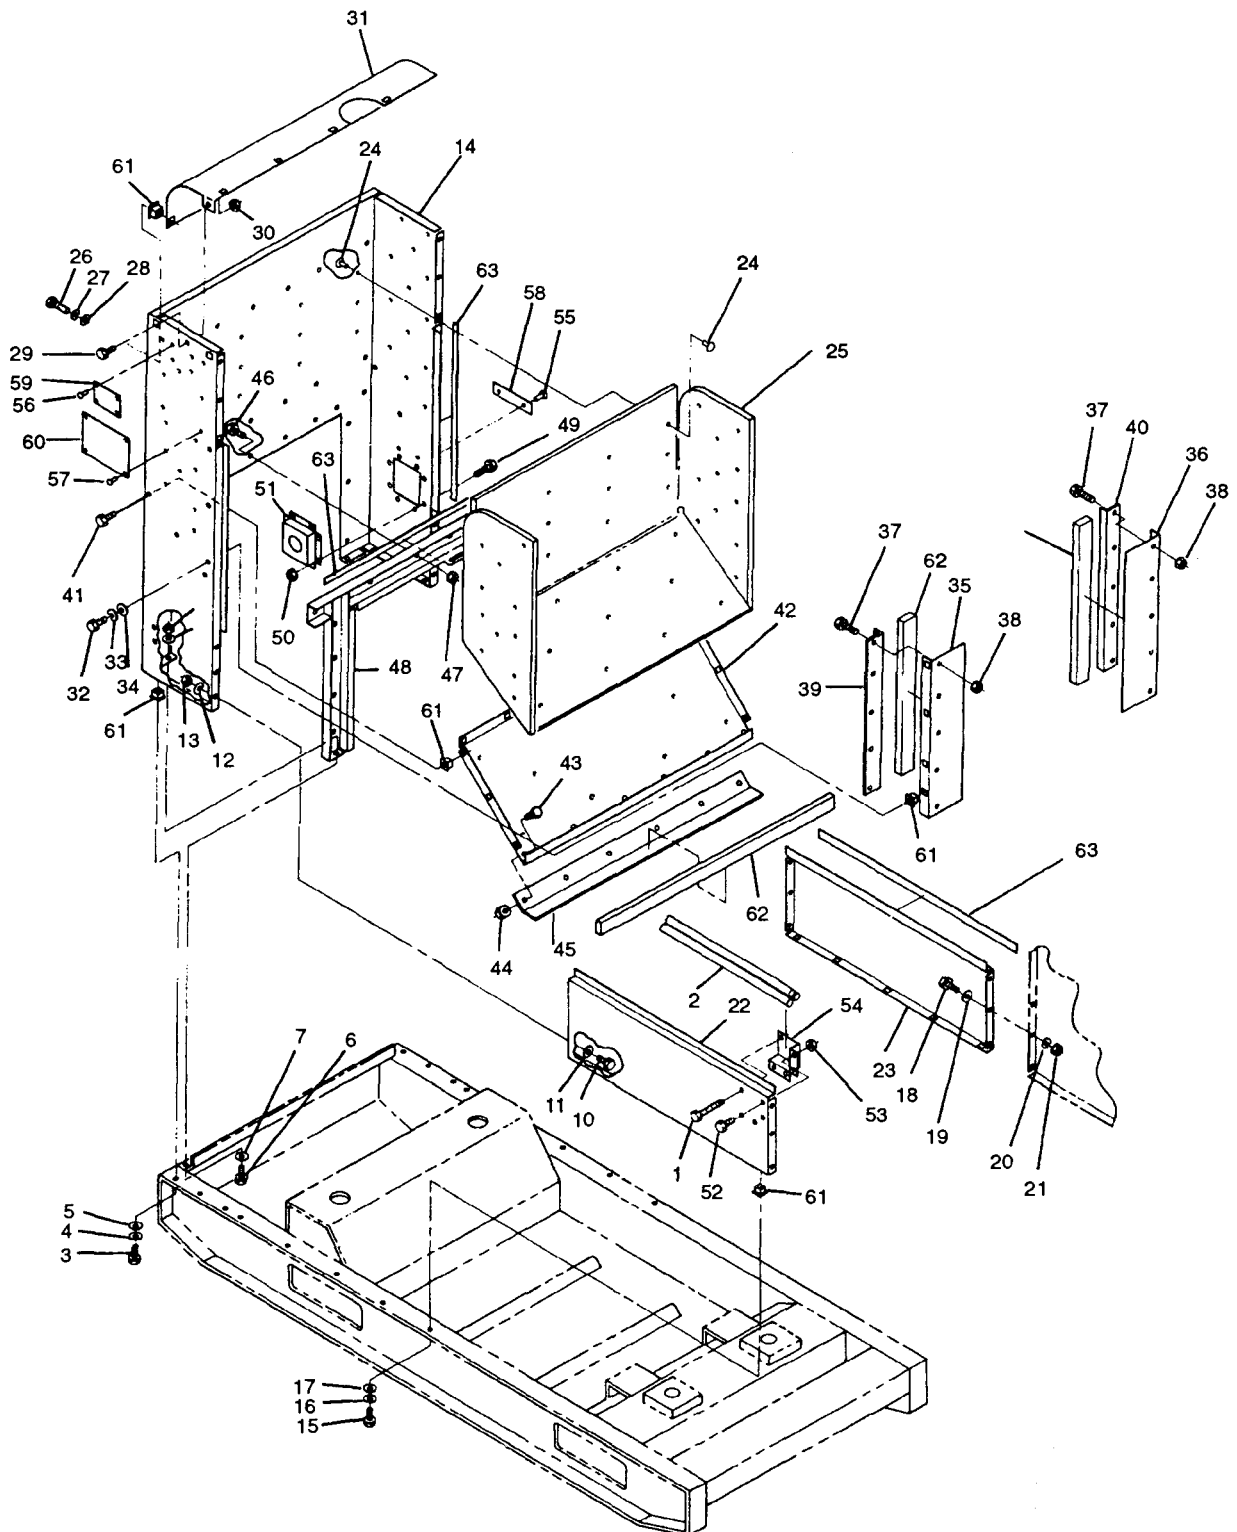

FIGURE 2-8. Generator Set Front Housing Section
- f. Remove bolts (1, FIGURE 2-8) and ground rods (2) from brackets (54).
- g. Remove bolts (3), (6), and (10); flatwashers (5), (7), and (11); lockwashers (4), (8), and (12); nuts (9) and (13); and front panel (14) from generator set.
- h. Remove bolts (15) and (18), flatwashers (17) and (19), lockwashers (16) and (20), nuts (21), and side panels (22) and (23) from generator set.
- i. Remove clip halves (24) and insulation (25) from front panel (14).
- j. Remove bolts (26) and (29), washers (28), lockwashers (27), assembled nuts (30), and air deflector (31) from front panel (14).
- k. Remove bolts (32), lockwashers (33), washers (34), and panels (35) and (36) from front panel (14).
- l. Remove bolts (37), assembled nuts (38), and supports (39) and (40) from panels (35) and (36).
- m. Remove bolts (41) and panel (42) from front panel (14).
- n. Remove bolts (43), assembled nuts (44), and support (45) from panel (42).
- o. Remove bolts (46), assembled nuts (47), and support channel (48) from front panel (14).
- p. Remove bolts (49), assembled nuts (50), and slave receptacle box (51) from front panel (14).
- c. Inspect all cage nuts (61, FIGURE 2-8) for cracking or stripped threads.
- e. Inspect seals (62) and (63) for tears, looseness, and deterioration.
- c. Repaint surfaces in accordance with TM 43-0139. (F) Refer to applicable directives.
- d. Replace any cracked or stripped cage nuts (61, FIGURE 2-8).
- f. Replace loose or damaged seals (62) and (63).
- a. If removed, install identification plates (58, 59, and 60, FIGURE 2-8) on front panel (14) with pop rivets (55), (56), and (57).
- b. Install brackets (54) on panels (14) and (22) with bolts (52) and assembled nuts (53).
- c. Install slave receptacle box (51) on front housing panel (14) with bolts (49) and assembled nuts (50).
- d. Install side panels (22) and (23) on generator set with bolts (15) and (1 8), flatwashers (17) and (1 9), lockwashers (16) and (20), and nuts (21).
- e. Install support channel (48) on front panel (14) with bolts (46) and assembled nuts (47).
- f. Install support (45) on panel (42) with bolts (43) and assembled nuts (44).
- g. Install panel (42) on front panel (14) with bolts (41).
- h. Install supports (39) and (40) on panels (35) and (36) with bolts (37) and assembled nuts (38).
- i. Install panels (35) and (36) on front panel (14) with bolts (32), lockwashers (33), and washers (34).
- j. Install air deflector (31) on front panel (14) with bolts (26) and (29), washers (28), lockwashers (27), and assembled nuts (30).
- k. Install insulation (25) on front panel (14) with clip halves (24).